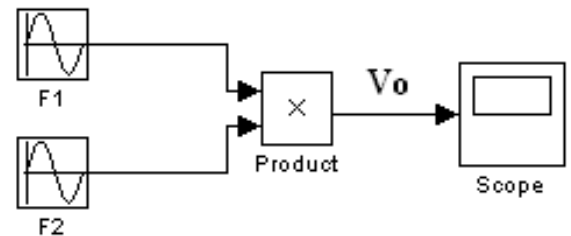

Fig.4
c) Build the system shown in fig.4: